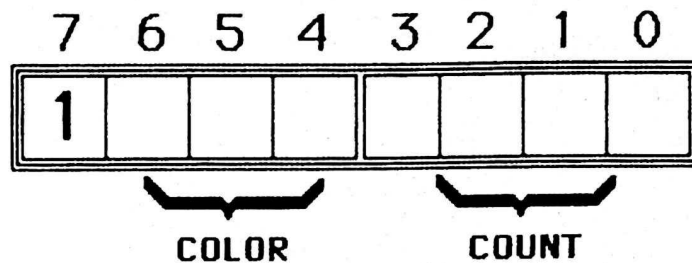

Figure 2-2. Transition Code Format
2.2.1.1 Transition Code. Transition codes are used to indicate changes in the color of a scanline. This code indicates that the scanline is to assume the specified color for the specified "count" of pixels. A transition code is denoted by a "1" located at the eighth bit. See Figure 2-2 for the format of a Transition Code.